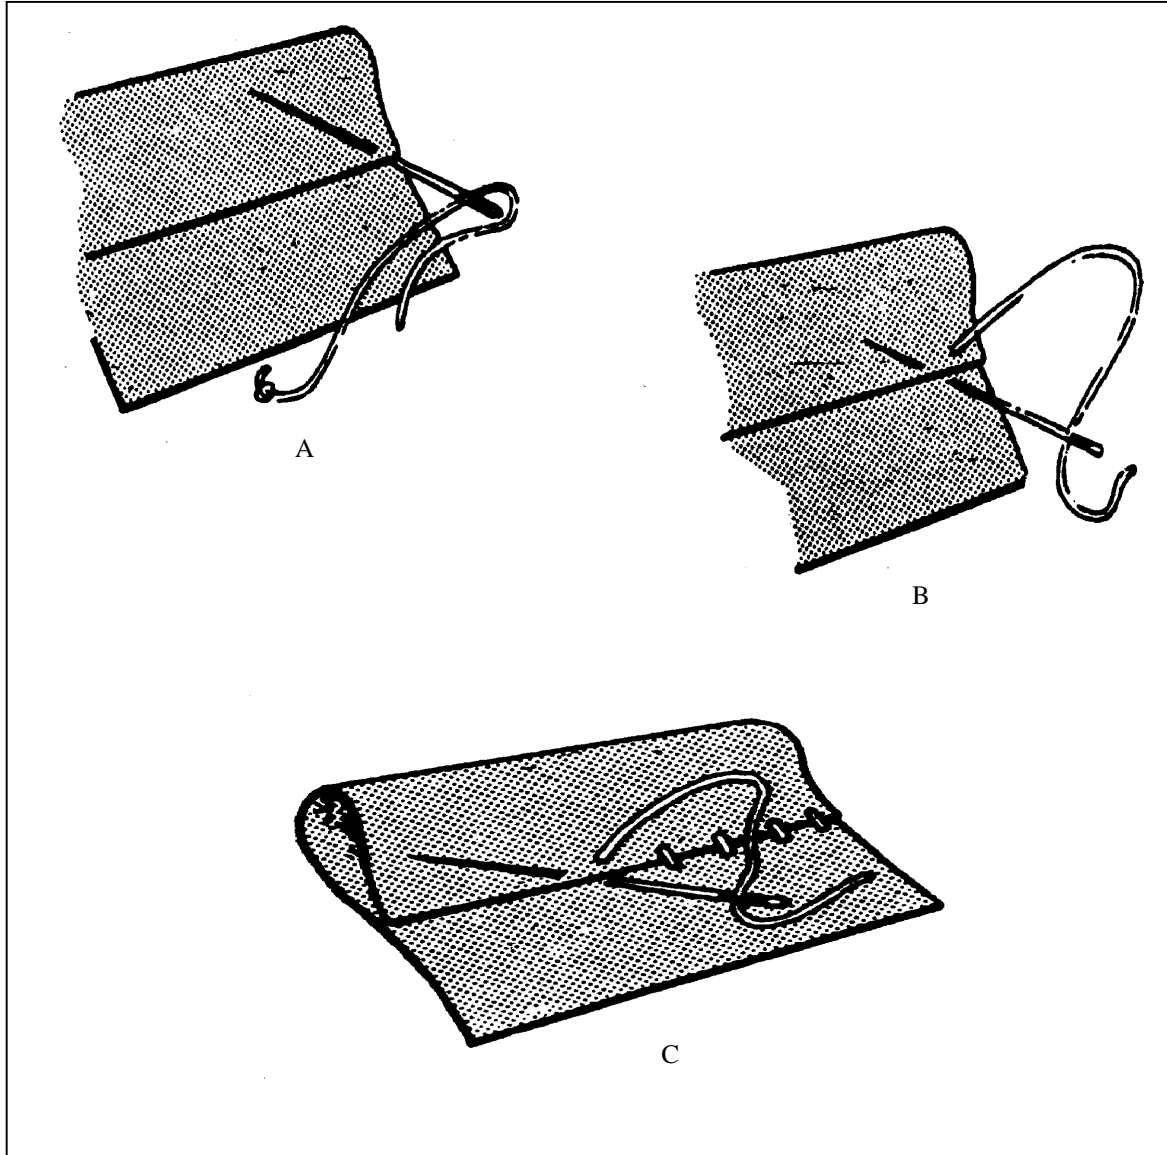

Figure 2-5. Felling stitch
b. Felling Stitch (Vertical Hemming or Overhand Stitch). The felling stitch (Figure 2-5) is a form of blind stitch used in most instances to hem or to hold two pieces of material together where a machine cannot satisfactorily operate, for example, sleeves on wool jackets. It is possible to sew the lining by machine; however, the machine sewn stitch through the sleeve would not present a neat military appearance. In some cases, the waistband on trousers are felled in by hand. The felling stitch can be used only on smooth edges where no thread has become unraveled. The rough edges of the fabric is turned under before stitching. The length of the felling stitch is determined by the job it has to perform; normally, the felling stitches should be $\frac{1}{8}$ of an inch apart, depending on the type of work to be done.